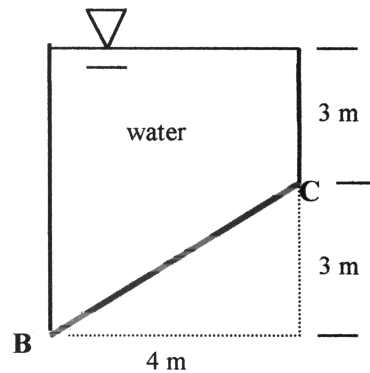

Fig. P2.57
**2.57** The tank in Fig. P2.57 is 2 m wide into the paper. Neglecting atmospheric pressure, find the resultant hydrostatic force on panel BC, (a) from a single formula; (b) by computing horizontal and vertical forces separately, in the spirit of curved surfaces.